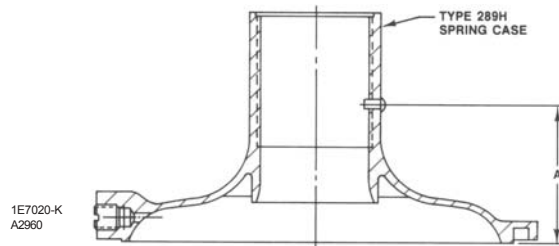

Figure 3. Location of Travel Stop Drive Screw for 2-Inch, Type 289H Relief Valve
For 2-inch Type 289H relief valves, when changing from one spring range to another, it is recommended that a new spring case be used so that the travel stop drive screw will be positioned correctly for the corresponding spring range. Each spring range requires that the travel stop drive screw be positioned appropriately in the spring case to prevent setting the relief valve pressure too high. The location of the travel stop drive screw for each spring and spring range is shown in figure 3.
5. Unscrew the machine screws (key 29), and then remove the stem guide assembly (key 31) and attached parts.
6. Slide the spacer (key 23) and the pitot tube (key 18) and attached parts out of the stem guide assembly.
7. Remove the gaskets (key 19), the spacer (key 23), and the O-ring washer (key 22) from the pitot tube. Then remove the O-ring washer (key 20) and the orifice (key 10) from the valve body (key 1).
10. Reinstall the orifice and the O-ring (key 20) into the valve body.
12. Reinstall the stem guide assembly with attached parts into the valve body, and attach it with the machine screws (key 29).
13. Replace the lower diaphragm head, the diaphragm, the diaphragm head, and the lower spring seat; then secure these parts with the hex nut (key 11). Screw in the lifting stem, and lock it in place with the hex nut (key 24).
**another, use a new spring case to position the travel stop drive screw correctly for the corresponding spring range. Each spring range requires that the travel stop drive screw be positioned appropriately in the spring case to prevent setting the relief valve pressure too high. The location of the travel stop drive screw for each spring and spring range is shown in figure 3.**
15. Attach the spring case to the valve body using the machine screws (key 8).